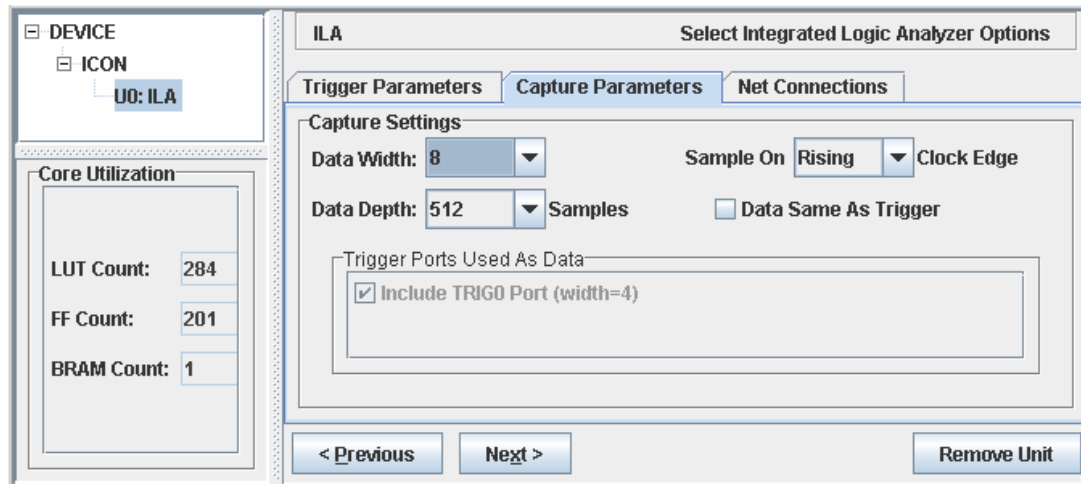

Figure 2.3 – ChipScope Pro ILA Core Capture Parameters
- ⑥ Customizing the ILA core includes three steps – customizing the Trigger Parameters, Capture Parameters and Net Connections.
- ⑦ In the **Trigger Parameters** tab, enter the below mentioned values for the options.
- ⑧ Now select the **Capture Parameters** tab and enter below mentioned values for the options (figure 2.3).